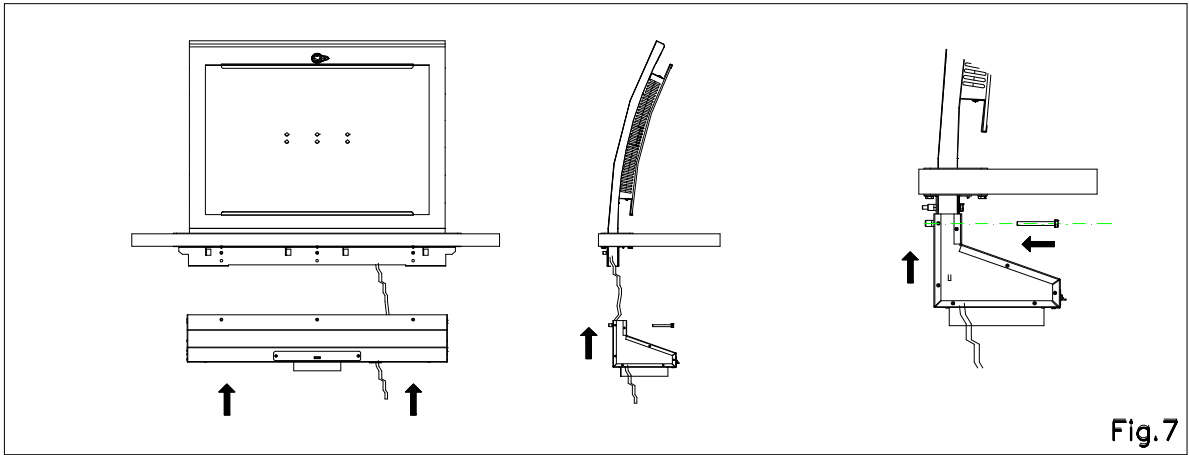

Fig.7
- 6) From the lower part, insert the air conveyor (Fig. 7), by passing the cables inside it, housing them in the dedicated slot with gasket. Secure with the appropriate screws supplied to the anchoring support.